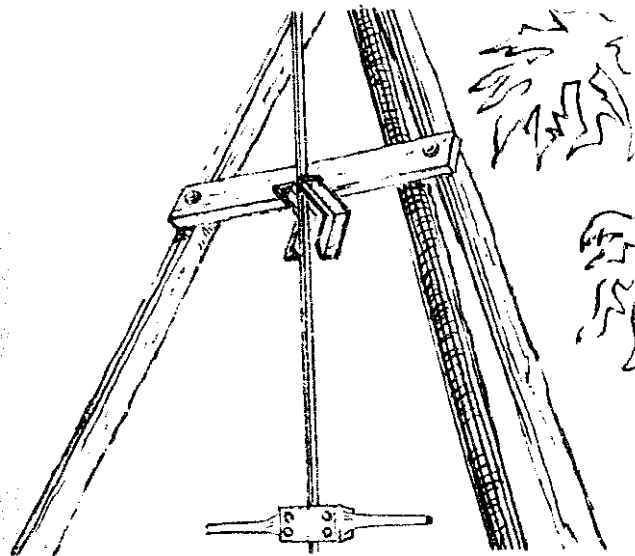
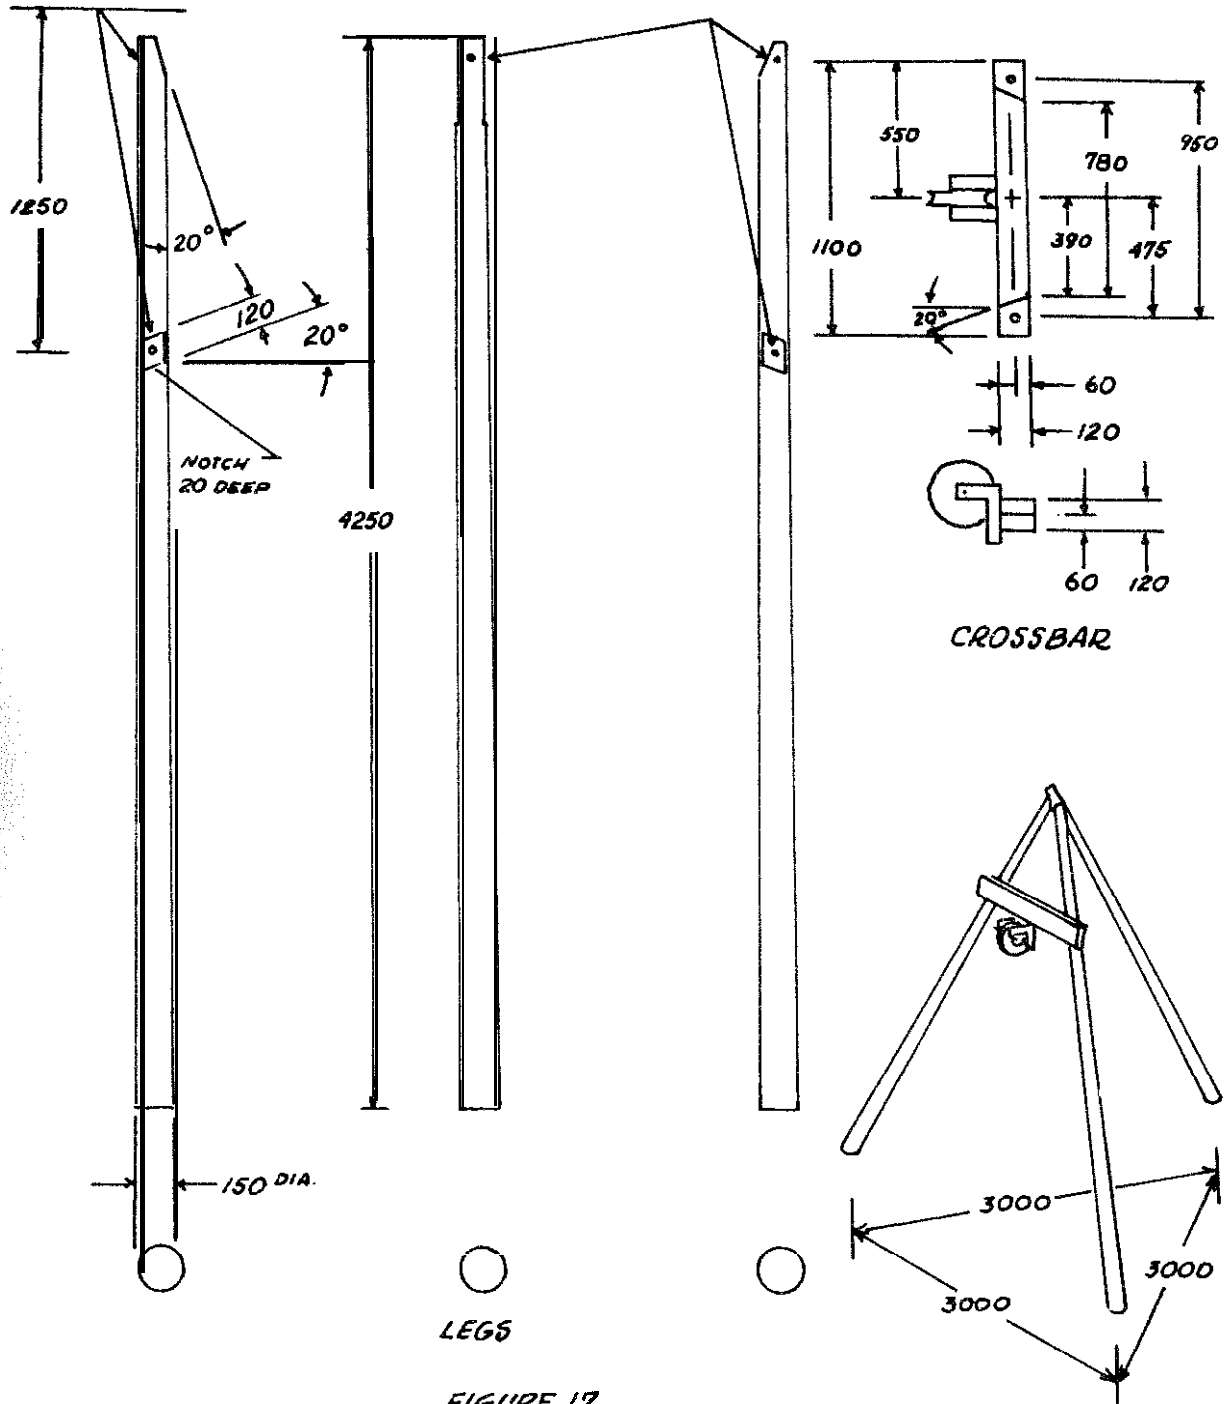

FIGURE 15
FIGURE 17
The tripod (see Figures 15 and 16), which is made of poles and assembled with 16mm (5/8") bolts, serves three purposes: (1) to steady the extension of the auger when it extends far above ground; (2) to provide a mounting for the pulley (see Figures 17 and 19) used with the drill bit and bailing bucket; and (3) to provide a place for leaning long pieces of casing, pipe for pumps, or auger extensions while they are being put into or taken out of the well.
When a pin or bolt is put through the holes in the two ends of the "L"-shaped pulley bracket (see Figures 15 and 18) that extend horizontally beyond the front of the tripod crossbar, a loose guide for the upper part of the auger extensions is formed.